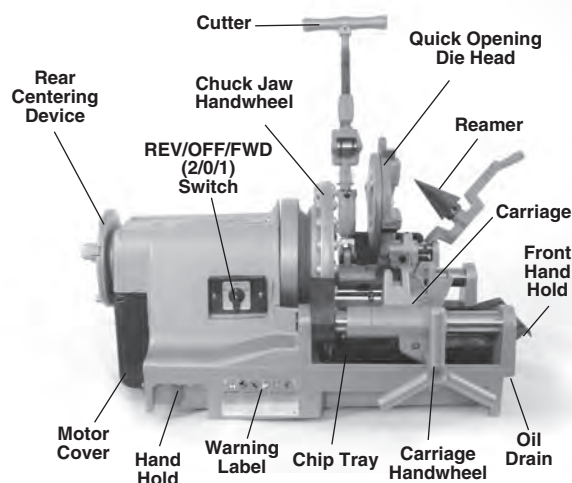

Figure 1 – 300 Compact Threading Machine
- Presence and readability of warning labels (*Figures 1 & 2*).